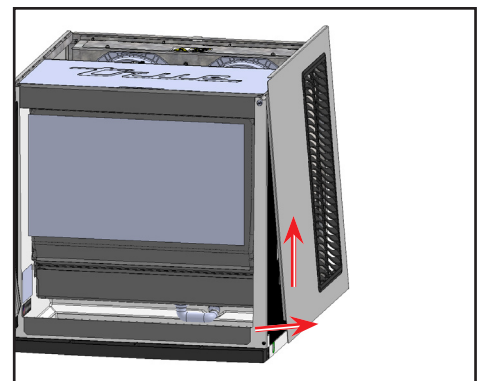

Fig. 6. Pull the panel from the adhering tabs and then lift.
4. Pull the side panel from the bottom fasteners. Then, lift the side panel. See fig. 6.